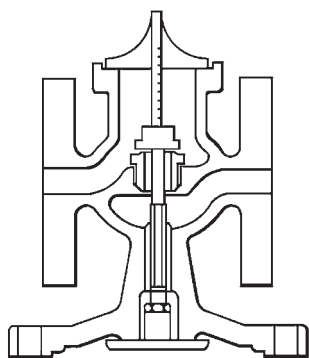

Fig. 17
9. Where a part has been fitted or where extensive lapping has taken place, it will be necessary to reset the main valve pushrod (26) to give the correct valve lift.
11. Refit the pushrod assembly and replace the main valve head (17) making sure that it is located onto the main seat.
12. The main valve can now be opened by pushing on the plate (25) until it comes up against the stop on the body. See Figure 17. Check the valve lift by using a depth gauge as shown.